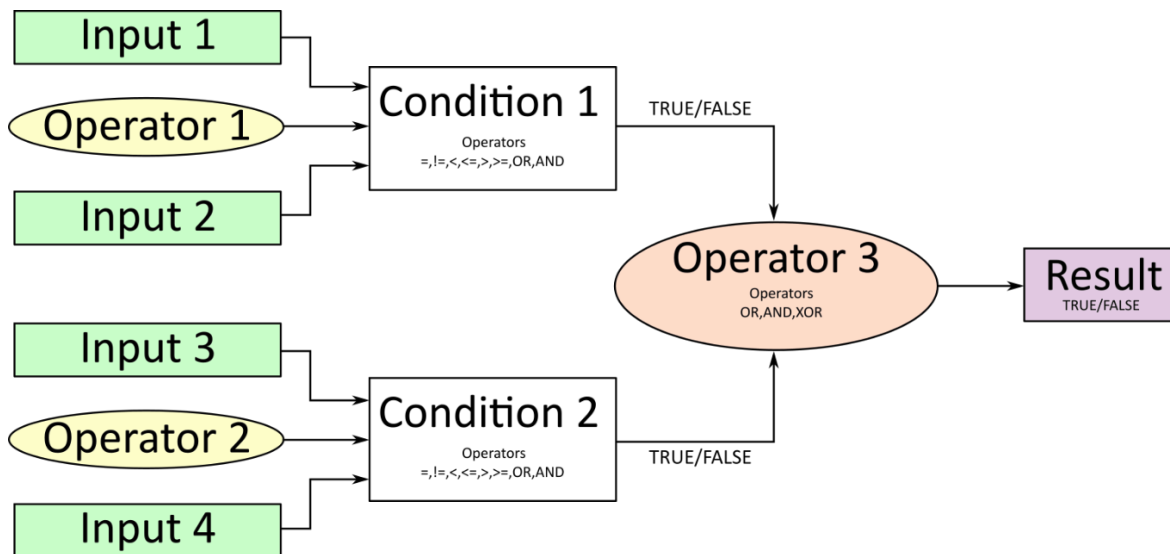

Figure 9: Conditional Block Diagram
The Conditional Block compares up to four different input sources with different logical or relational operators. The result of each block can therefore only be true (1) or false (0). Figure 9 demonstrates the connections between all parameters.